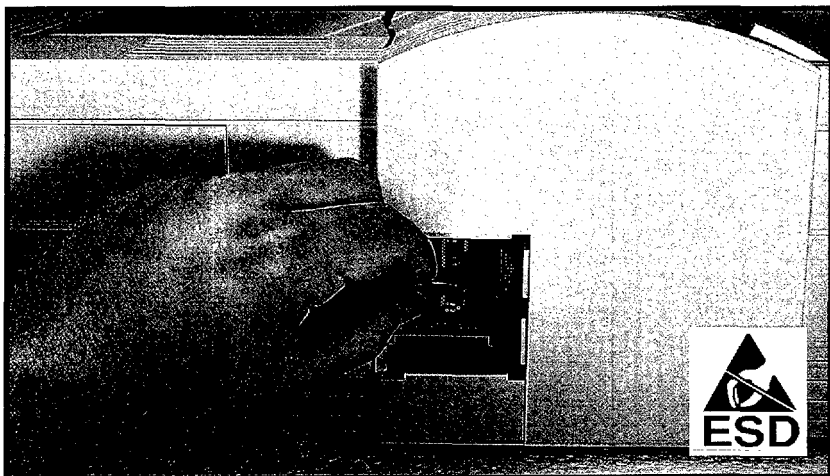

Figure 6-2 Removing the Memory Module (LaserJet 4L)
3. Remove any optional memory card (Figure 6-2).